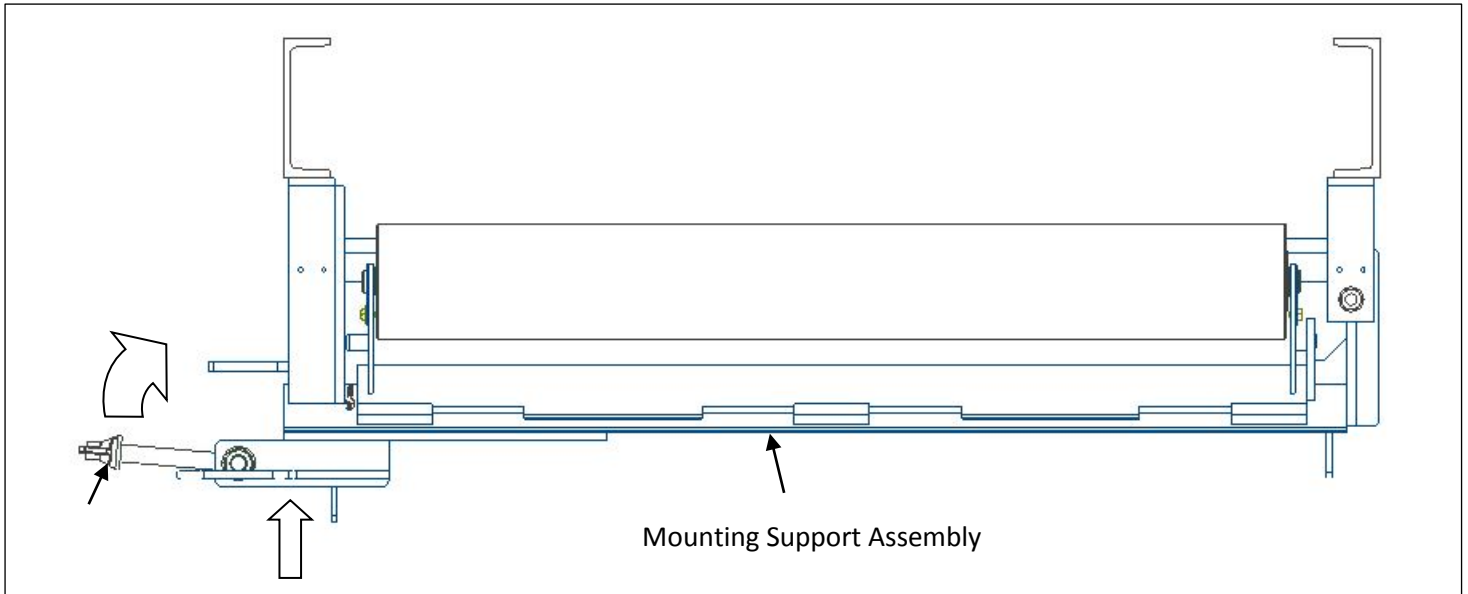

Figure 7
13. Lift the mounting support assembly in place and rotate the wing nut in place and tighten. See Figure 7 & 8.